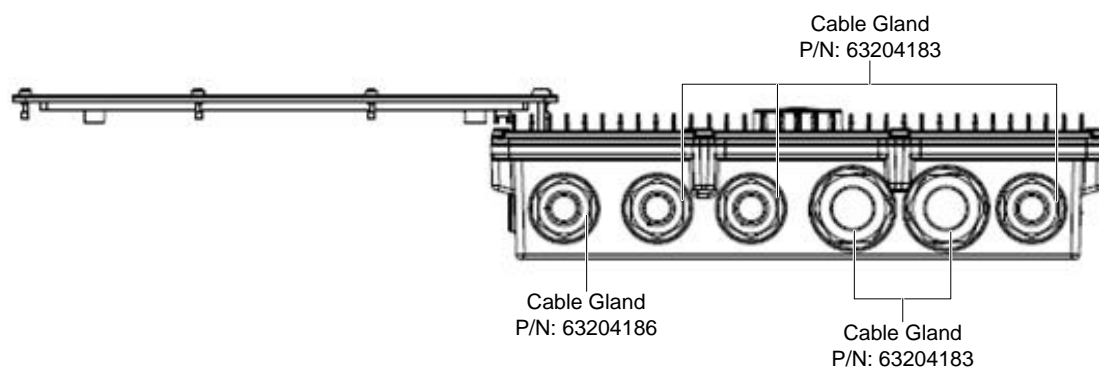

Figure 25: Slide appropriate cable into the appropriate pins of the connector housing.
5. Slide the cable(s) through the rear Cable gland nut, then slide the appropriate cables into the appropriate pins of connector(s) on the PCBA board, finally tighten two screws on the top of the connector(s) to fix customer's cable. Refer to Figure 25.